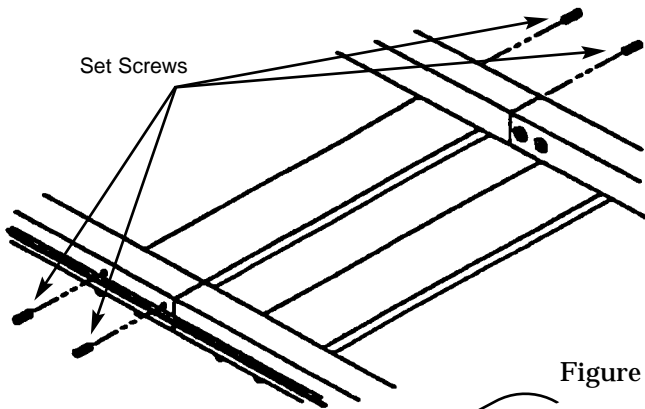

Figure 5
Install and tighten four (4) set screws on the main ladder. (See Figure 5.)